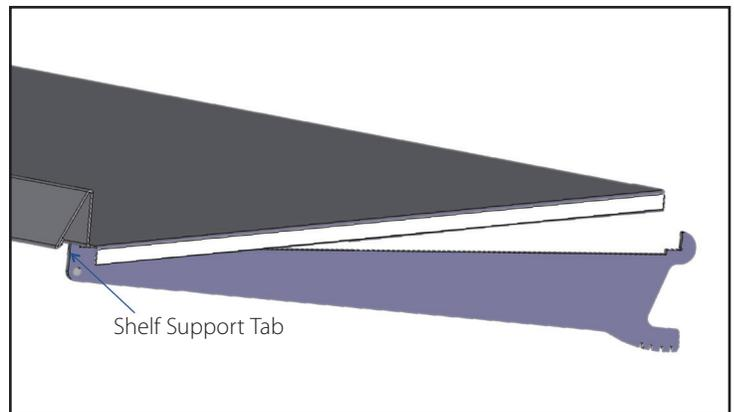

Fig. 2. Install the shelves
- b. Move the back of the shelf up and back until the front of the shelf clears the shelf support tab on the shelf bracket. See fig. 2.